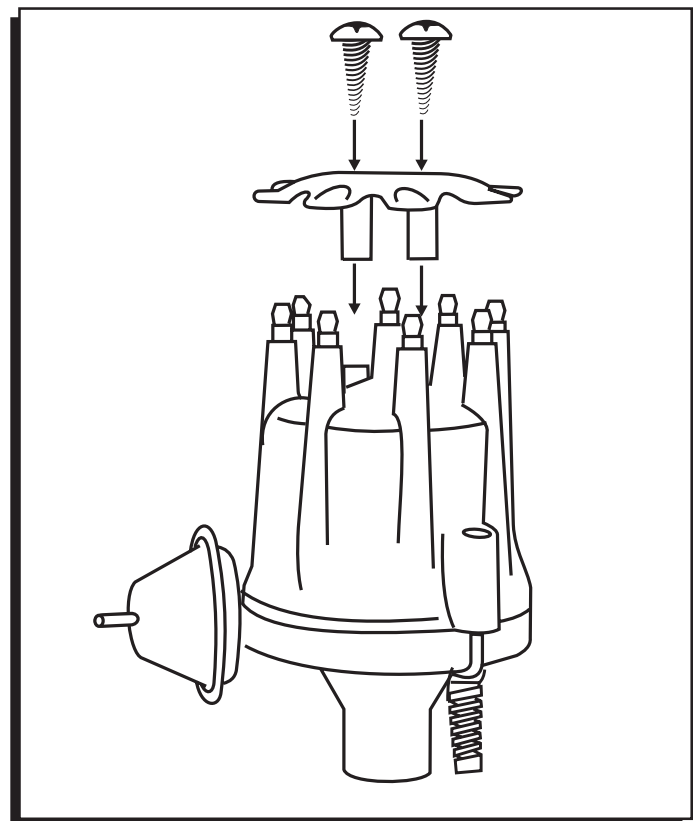

Figure 9 Installing the Wire Retainer.
10. Install the distributor cap and spark plug wires one at a time to ensure correct location. A wire retainer is supplied to secure the wires in place. Align the mounting bosses and use the supplied 1.5" self-tapping Phillips screws to hold the the retainer in place (Figure 9).